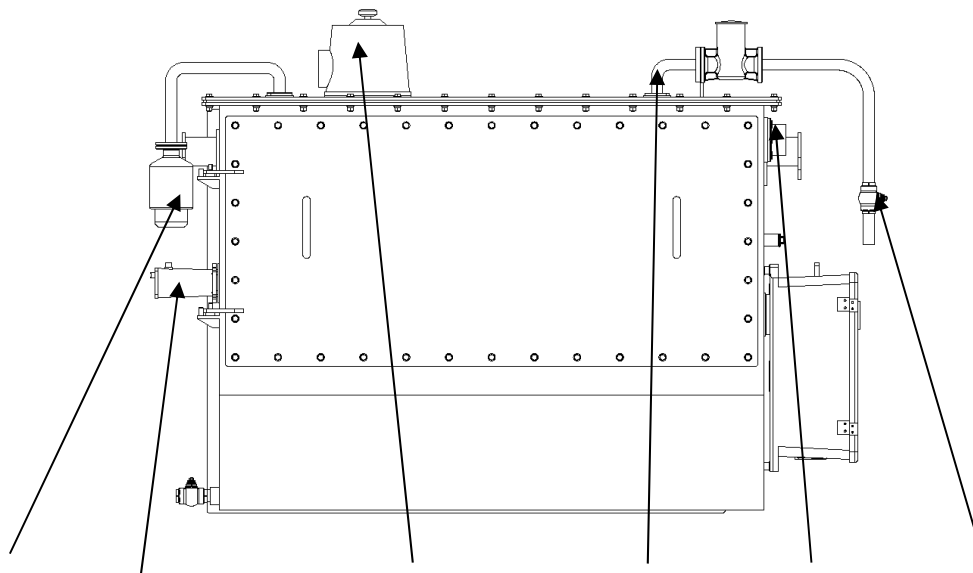

Fig. 15 Breather Sudden pressure relay Pressure relief valve Oil filling pipe Oil level gauge Oil filling valve
6.2.1 To fill oil under atmospheric pressure. There is no oil conservator equipped with transformer. Oil is directly filled through tap changer oil filling pipe. Oil conservator valve is in the middle. (See Fig. 15)